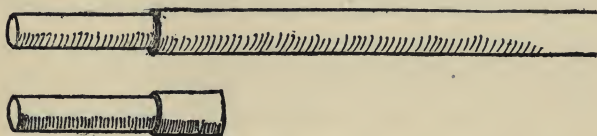

Fig. 34.—Large End of Tip, Shouldered to Fit a Capped Ferrule Center.
**T**O make a rod of the second class, in which the handgrasp is to be single and nine inches in length, the wood for the tip, inclusive of the agate top, will be approximately  $58\frac{1}{2}$  inches long, as the ferrule center on the large end of the tip will enter the handgrasp ferrule about  $1\frac{1}{2}$  inches. These ferrules should be  $15\text{--}32$  of an inch in diameter and of the type shown in Fig. 17. The large end of tip is marked for a distance equal to the small end of the center, and the wood carefully reduced with a file until it will enter the center snugly to its very end, as illustrated in Fig. 34. The center is then cemented on, and the tip is ready for its rubbed coat of varnish and the winding. Obviously this tip is to be made of the same diameter as rods of the first class—described in a preceding chapter—save that it begins to taper at the ferrule.